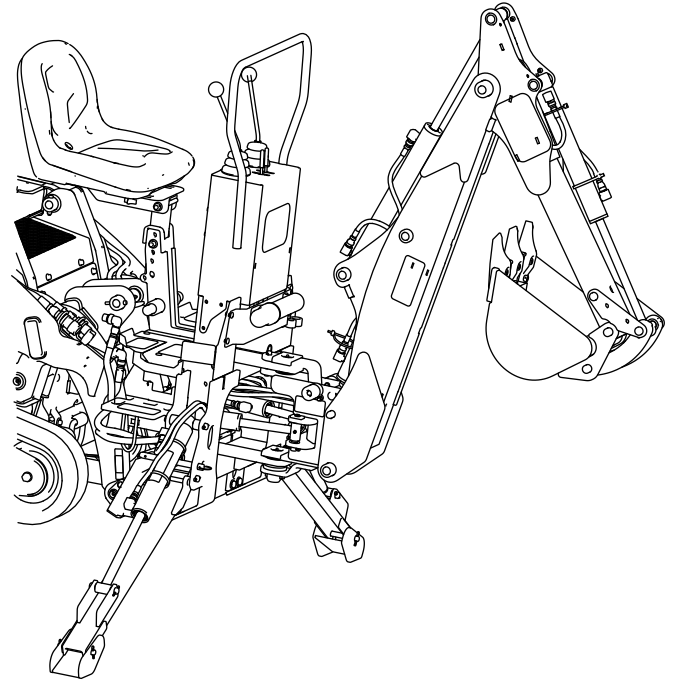

Figure 11
1. Fully raise the boom, retract the dipper, and curl the bucket rearward (Figure 11). Ensure that you center the boom locking pin holes as much as possible.